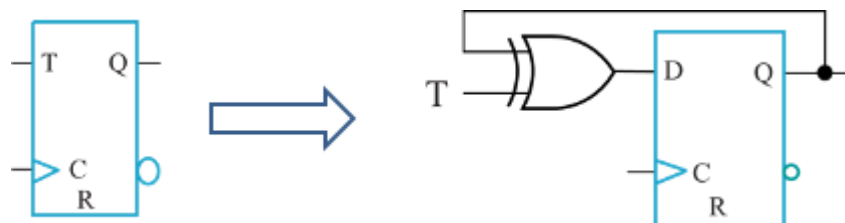

Figure 4: T-FF Implementation
2. Inside the **tff1.v** file, write a **structural** Verilog module to implement the T-FF circuit given in Figure 4. You need to use the D-FF module defined in **dff1.v** and the basic gate modules defined in **lib.v**.